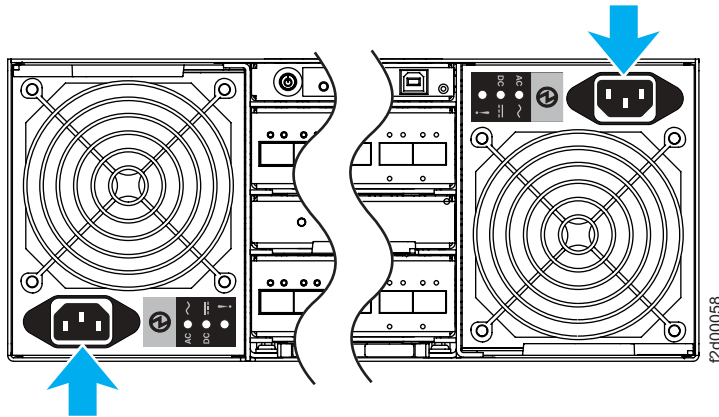

Figure 8. Power cord locations for the server and expansion enclosures
1. If you have not already done so, attach the power cords to the server and expansion enclosures. Figure 8 on page 44 shows the power cord locations.